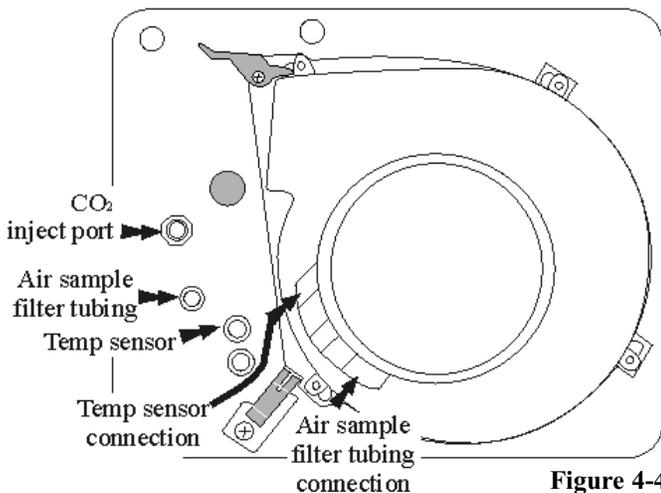

Figure 4-4
16. Carefully pull the temperature sensor and air sample filter tubing down until they can be inserted approximately 1 inch into the appropriate holes in the back of the blower scroll. See Figure 4-4.